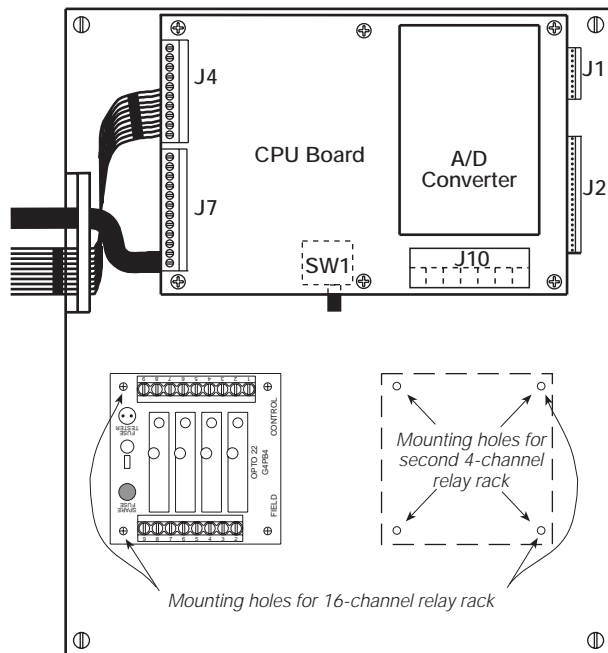

Figure 1. SS/HE Panel-Mounted 4-Channel Relay Rack
- On the SS and HE models, the relay board is mounted in pre-drilled holes in the panel holding the main CPU board (see Figure 1). For an 8-channel system, two 4-channel racks can be mounted side by side in SS or HE models as shown in Figure 1.